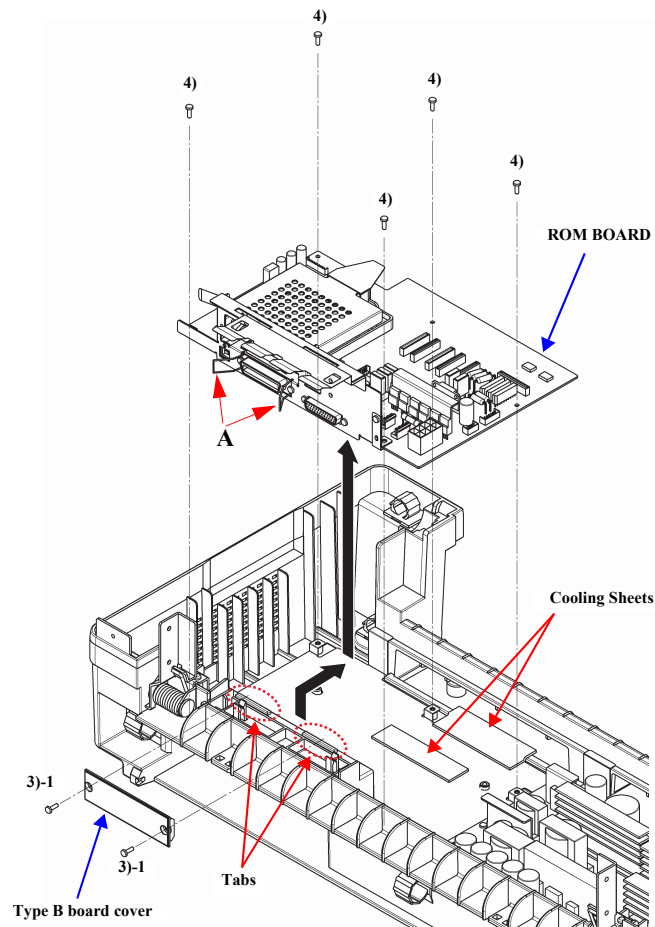

Figure 4-10. ROM BOARD Removal (1)
- When removing the ROM BOARD, be careful not to snag the parallel I/F cable connector clasps. (A)
- Remove the ROM BOARD slowly in order not to peel off the cooling sheets shown in Figure 4-10